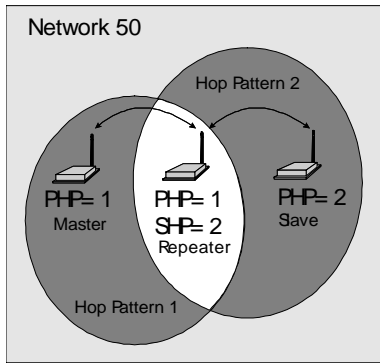
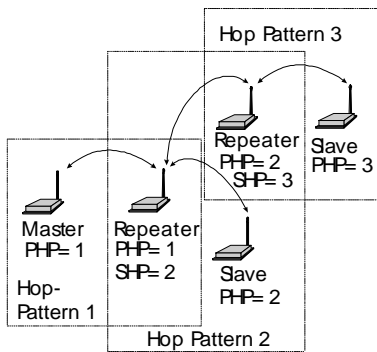

Figure 7 - Repeater Operation
Figure 8 - A Network Utilizing Three Hopping Patterns
5) Repeater. A more precise title would be Repeater/Slave, because a Repeater also has much of the same functionality as a Slave. A station can be connected at the Repeater location and communicate with the Master station. There is no restriction to the number of Repeaters in a network, allowing for communication over virtually limitless distances. The presence of one Repeater in a network automatically degrades system throughput by half. Additional Repeaters, regardless of the quantity, do not diminish system throughput any further. To understand Repeater operation, consider the SP 2.4E as belonging to two hopping patterns at the same time: The Primary Hopping Pattern and the Secondary Hopping Pattern. In Figure 7, the Master belongs to Hopping Pattern 1, and communicates with the Repeater on this hopping pattern. The Slave belongs to Hopping Pattern 2, and communicates with the Repeater on this hopping pattern. The whole system belongs to Network 50 (i.e., all units must be assigned the same Network Address (S104), which in this case was selected to be 50. Note that Slaves and Master only communicate on their respective Primary Hopping Pattern. Repeaters communicate on the Primary Hopping Pattern when communicating with the Master (or with another Repeater between itself and the Master). Repeaters communicate on their Secondary Hopping Pattern when communicating with Slaves (or with another Repeater between itself and the Slaves). Figure 8 shows another example.